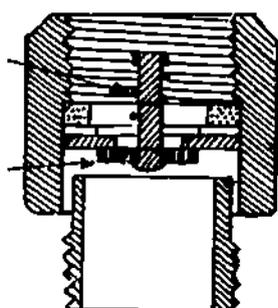

Figure 30-5. Vacuum Breaker Cross-Sectional View, Shown Open to Atmosphere
- c) Reduced Pressure Type (Figure 30-5).